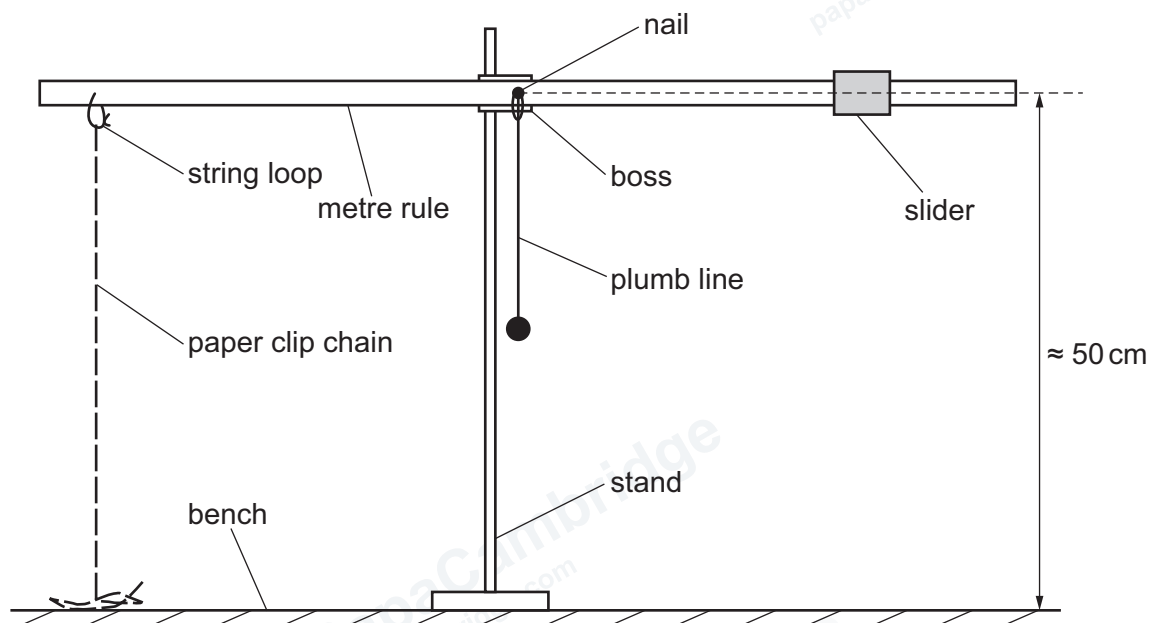

Figure 1.1
- Assemble the apparatus as shown in Figure 1.1.
- Adjust the position of the slider until the metre rule is approximately parallel to the bench, as shown in Figure 1.1.